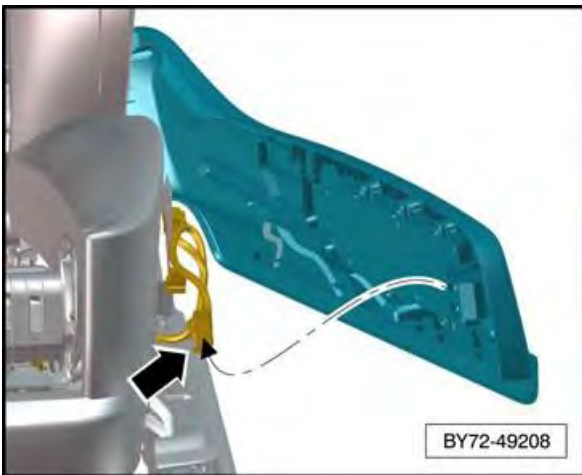

Figure 18
- Disconnect the electrical connector –arrow- for the switchpack and remove the side valance (see Figure 18)